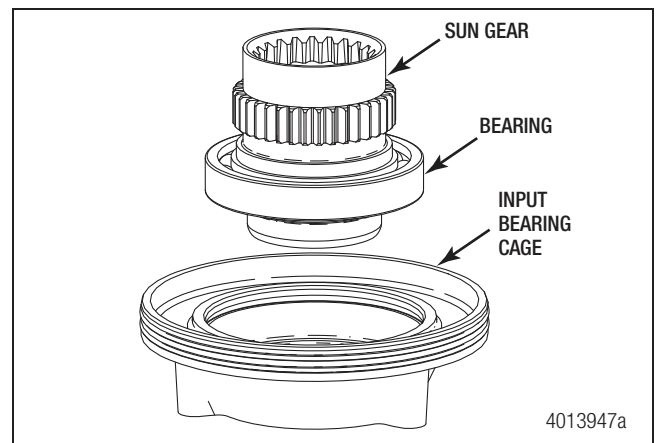

Figure 6.28
2. Install the sun gear and bearing into the bearing cage. Tap it in until it is seated in the bore. Figure 6.28.